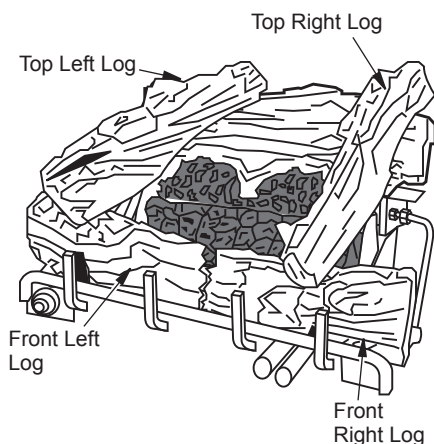

Figure 26 - Installing Logs
4. Place top left log as shown in Figure 26, page 20. The bottom of the log is shaped to fit onto the recessed areas of the front left log and the rear log. The recessed areas are painted yellow.
5. Place top right log as shown in Figure 26, page 20. The bottom of the log is shaped to fit onto the recessed areas of the front right log and the rear log. The recessed areas are painted yellow.